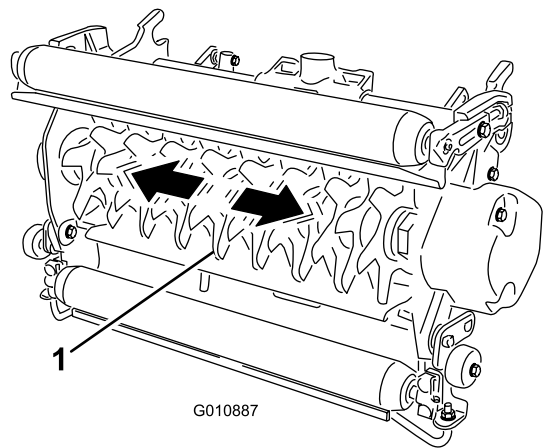

Figure 16
1. Hold on to the reel shaft and try to move the reel assembly side to side (Figure 16).